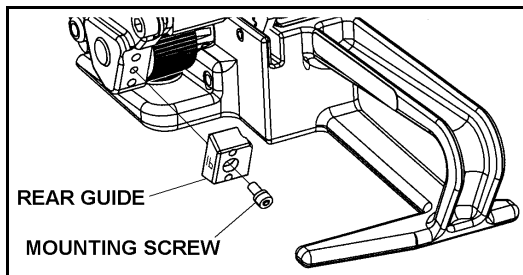

FIGURE 2
3. Rear Guide must be removed and reinstalled with numerals "16" facing outwards (See Figure 2).